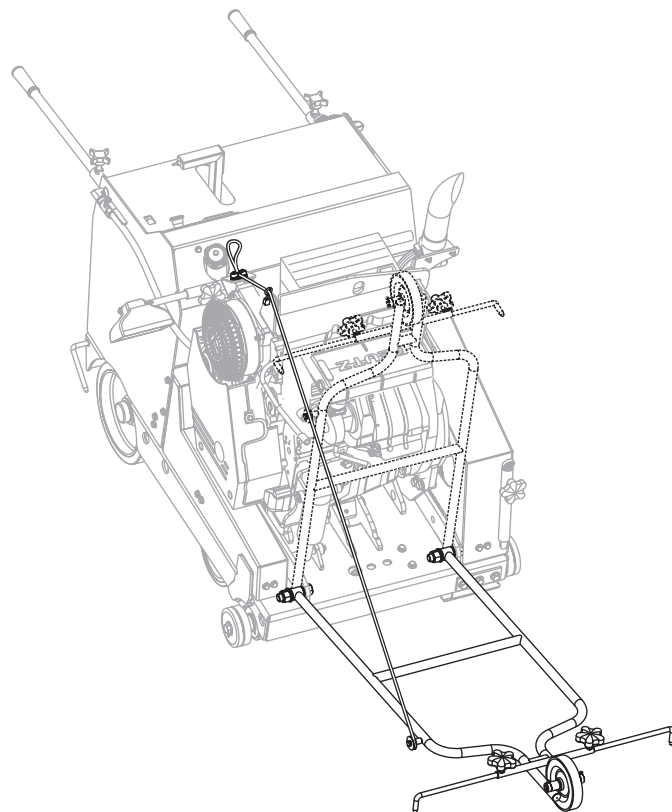

Figure 25. Pointer Assembly
1. Lower the front pointer assembly, (Figure 25).